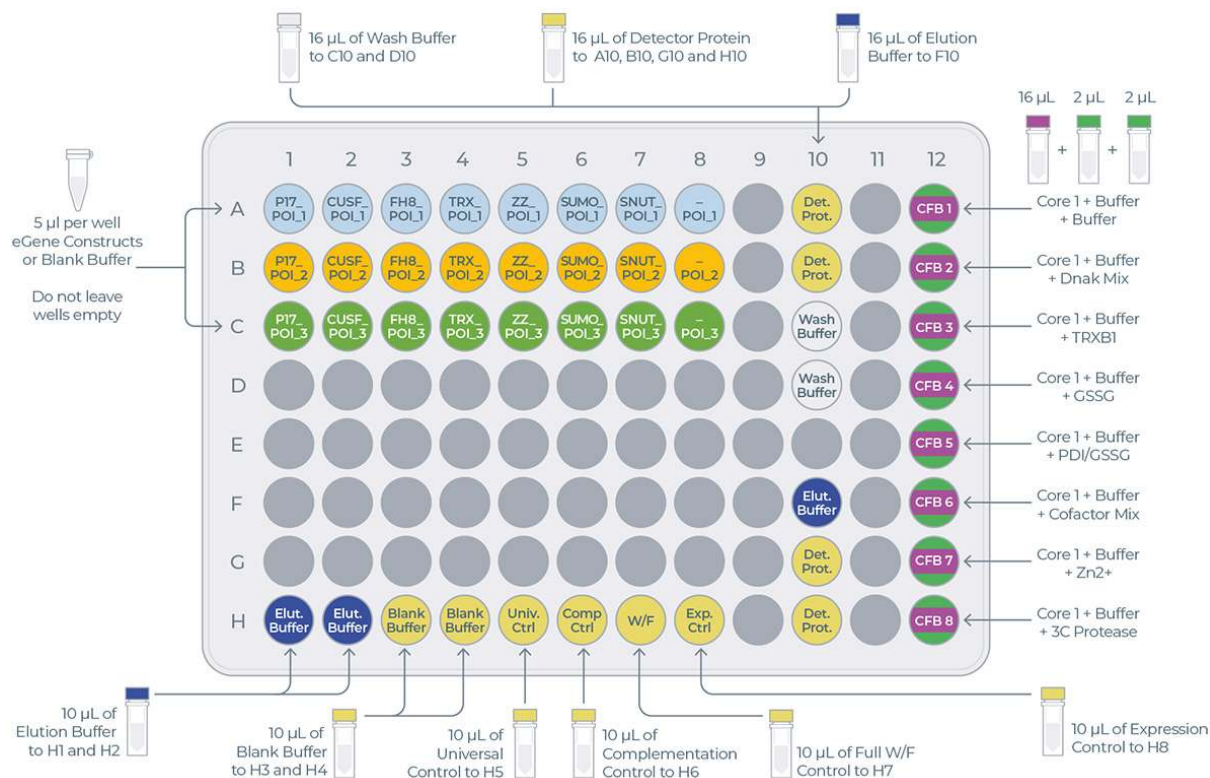

Figure 4: Example of transfer plate design
- On the same sheet, below the table, you can find the transfer plate design (Figure 4). This design will help you determine where to load reagents on the transfer plate.